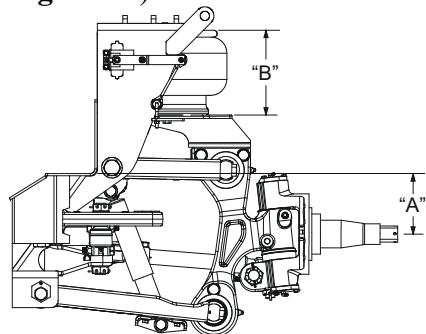

Figure 11
The ride height of the front suspension is the distance from the bottom of the chassis frame rail to the center of the wheel spindle. An alternate measurement may be taken as the height of the air spring (See **Figure 11**).
- A: On vehicles with front suspension equipped with (2) height control valves, check and adjust the rear suspension first.
4. Measure either the wheel center to bottom of frame ("A") or air spring height ("B"). If the dimensions are not within $\pm 1/8"$ of measurements in **Figure 11**, adjust as follows.